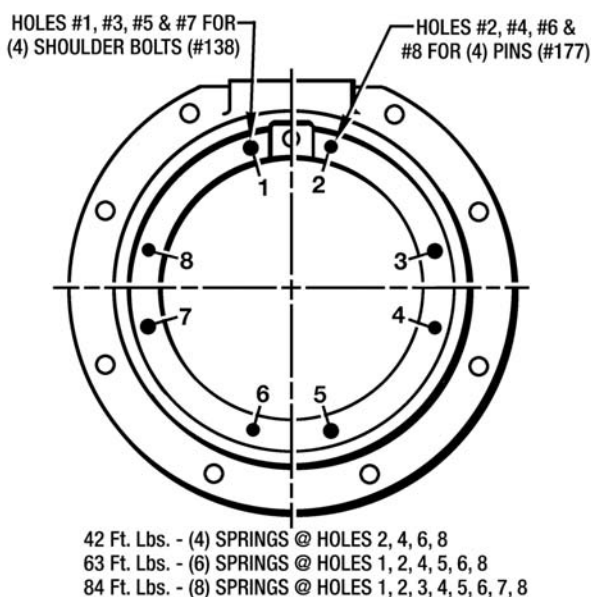

Figure 7.7 - Spring Placement for MSB4 and MSB6
7. Set the Armature Plate (#56) and Armature Ring (#58) in position on the Springs (#36). Make sure the (4) holes in the Armature Plate (#56) for the (4) Shoulder Bolts (#138) are aligned with the (4) tapped holes in the End Housing (#9) as shown in Figure 7.7.
8. Install the (4) Shoulder Bolts (#138). Use **Primer T** and **Blue Loctite #242** on the threads.
10. Attach the End Housing (#9) to the Input Housing (#15) with (8) Screws (#72) and (8) Lockwashers (#127). Torque the (8) Screws (#72) to **25 Lb. Ft.**